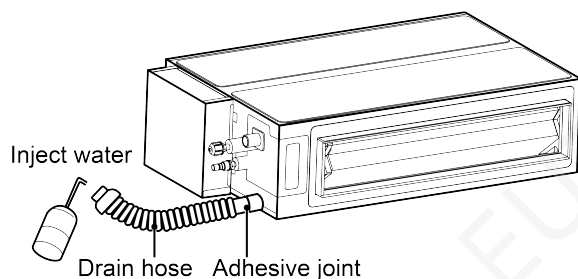

Fig 4.17
- 1) Connect the drain hose to the other drain connection pipe of water tray and fill about 1L water (as shown in Fig 4.17). (Remove the drain hose after finishing testing and then put on the plug of water tray.)